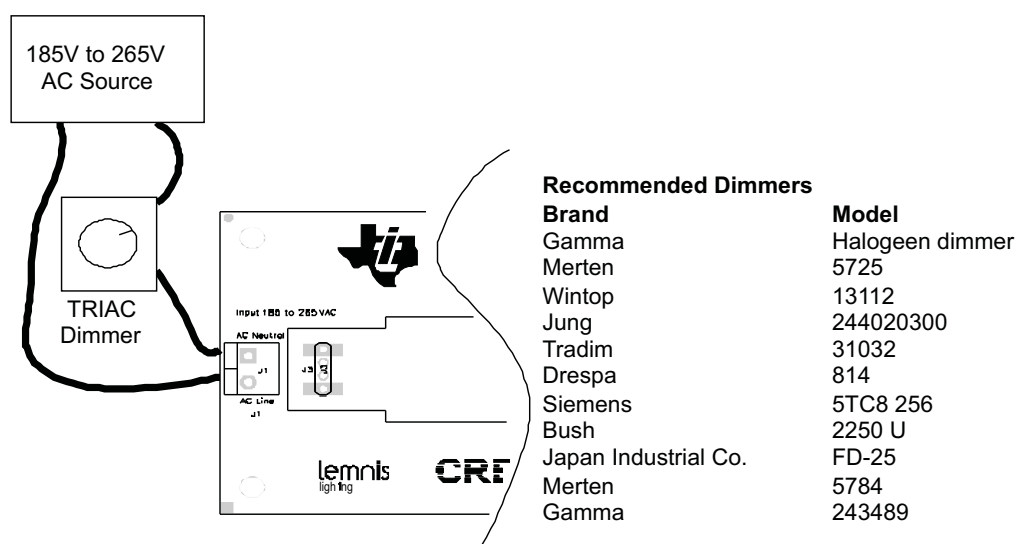

Figure 6. Test Up Using TRIAC Dimmer
2. Add TRIAC dimmer to the input per Figure 6.